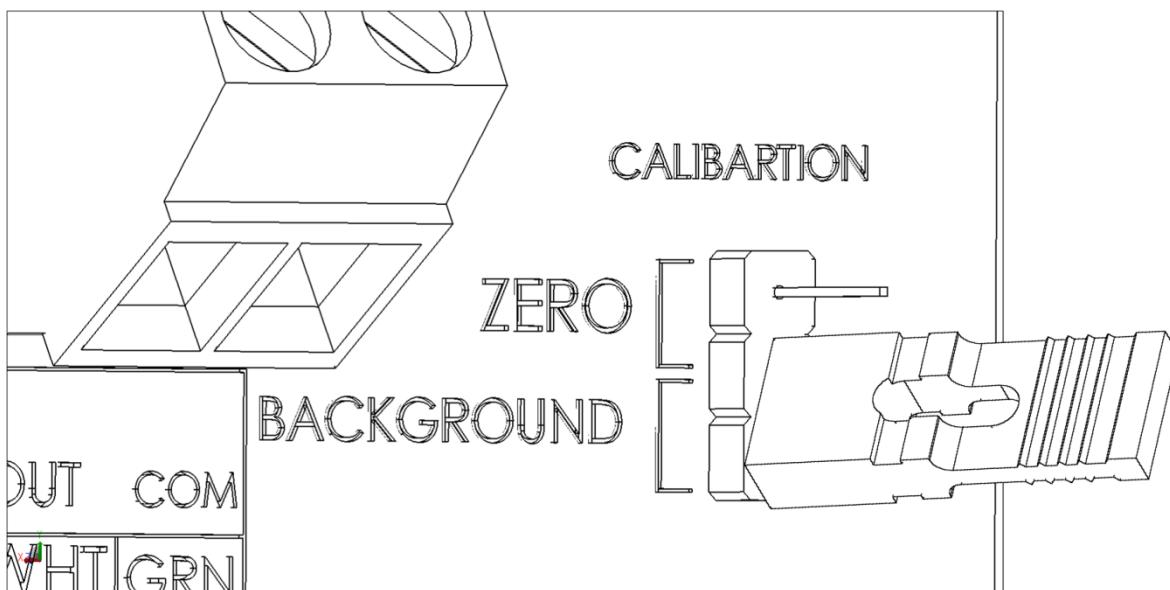

Figure 16: Shorting the Background Jumpers
5. Using the supplied jumper, short the Background jumpers for 10 seconds as shown in Figure 16.